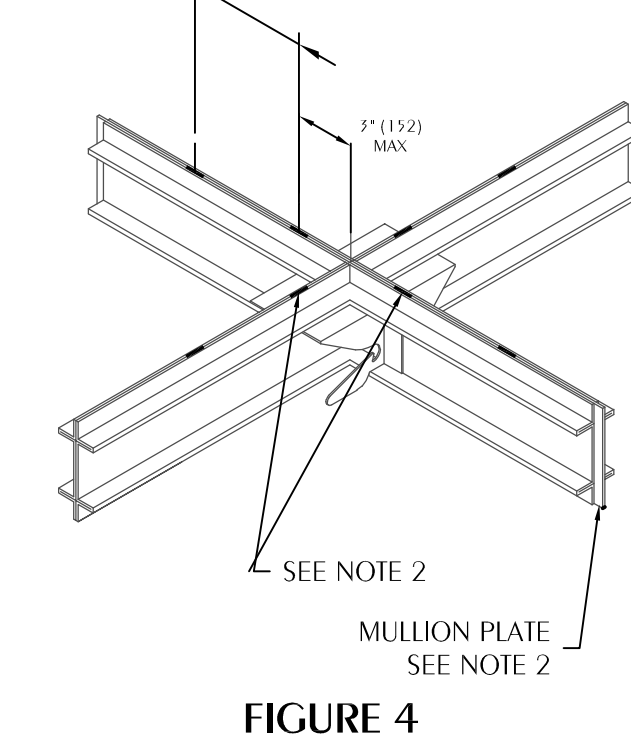

FIGURE 5
Multiple section horizontal mount dampers require a 1/4" gage thick x 41/2" (2 x 114) wide steel reinforcing plate sandwiched between the damper flanges with 1/2" (13) long welds staggered alternately and spaced on maximum 6" (152) centers. The reinforcing plate must be the same material as the dampers. The length must be equal to the damper widths of two or more adjoining damper sections. Reinforcing plates are not required for assemblies consisting of two dampers attached end-to-end or three dampers attached side-to-side as depicted in figure 5.